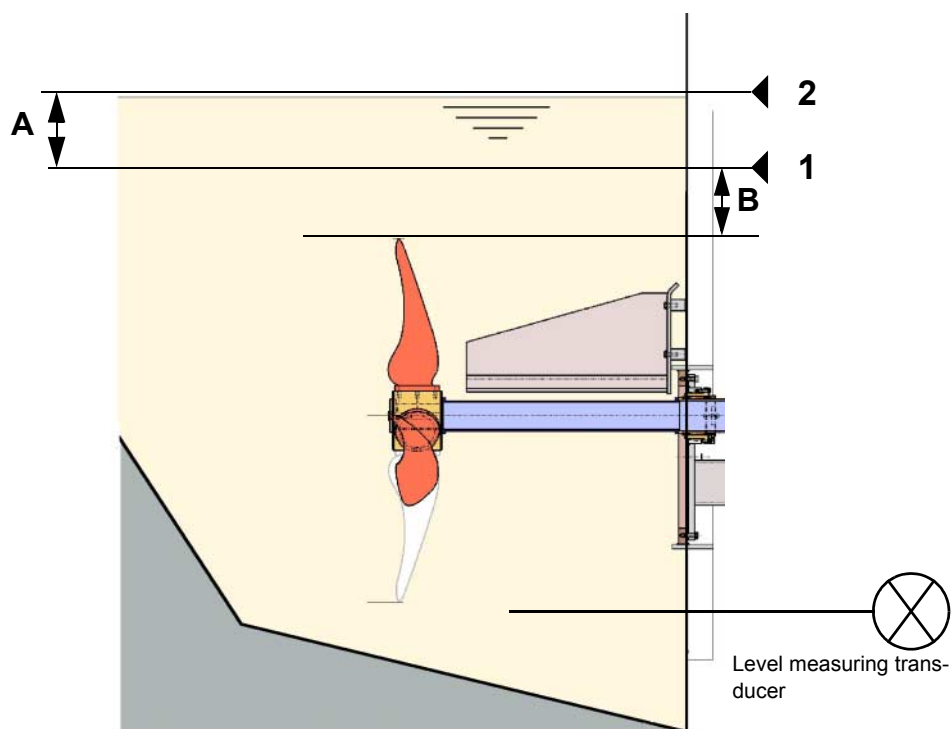

Fig. 4-7 Switching points
The shutdown (1) and the switching-on point (2) are set according to Fig. 4-7.